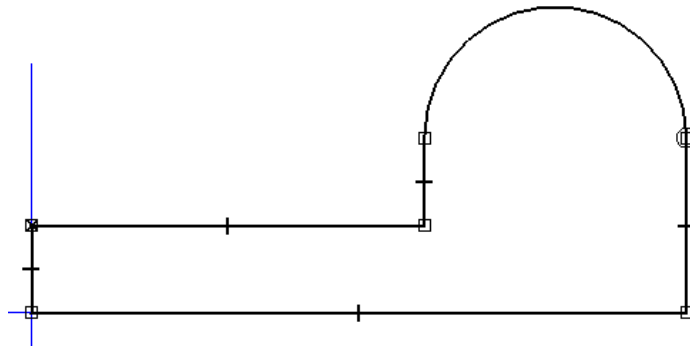

Figure 2-36 Outer loop of the profile for Tutorial 3
12. Click to specify the endpoint of the line when the endpoint relationship handle is displayed. The profile after drawing the outer loop is displayed in Figure 2-36.